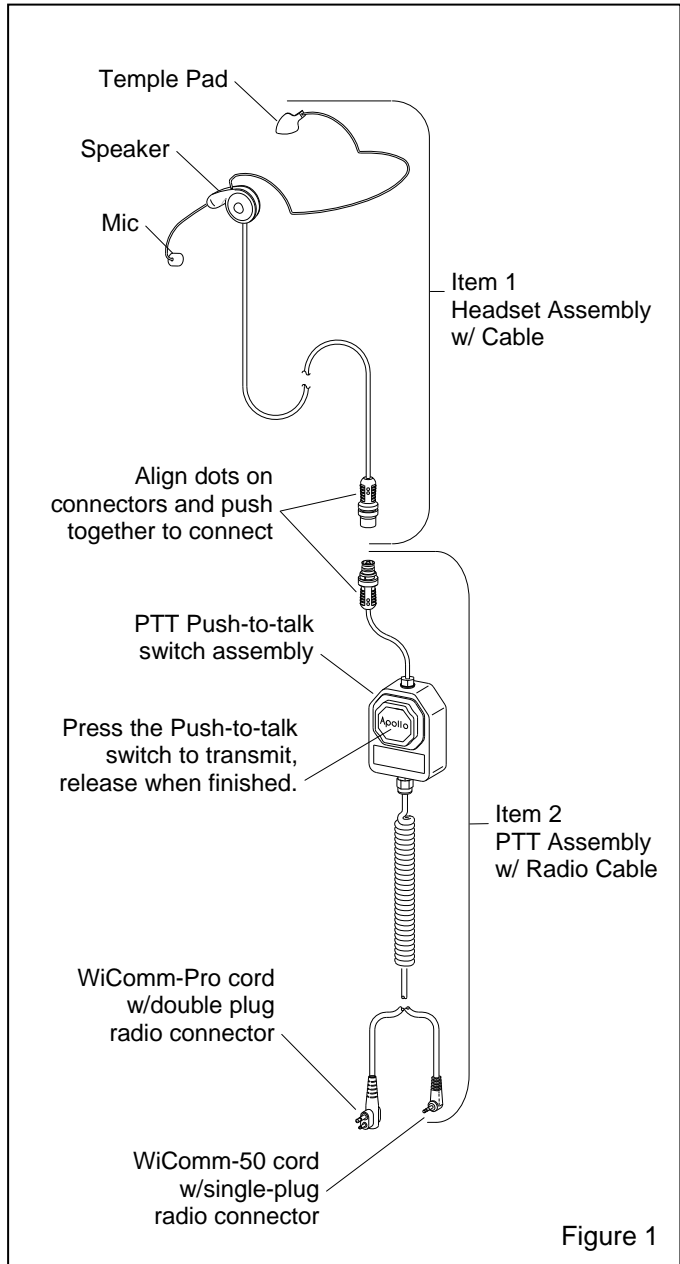

Figure 1
1.3.1 The components of the communication systems are listed below, and the headset and push-to-talk switch are shown in Figure 1. The complete systems include: